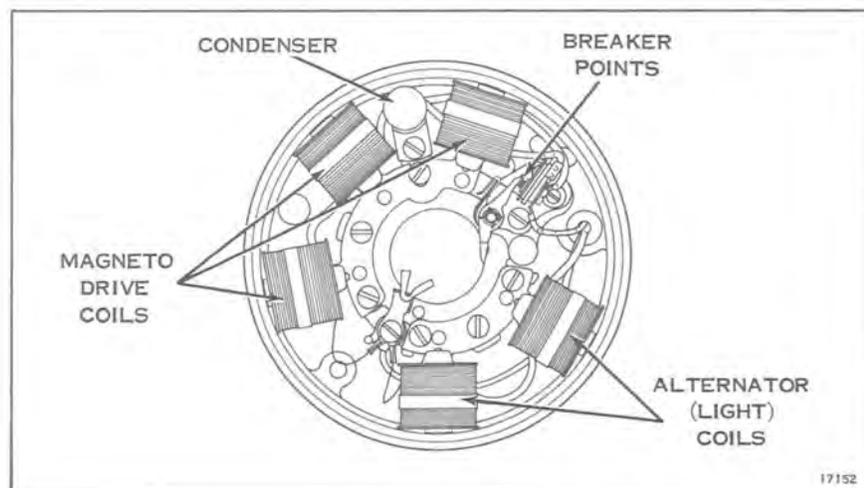

Figure 7-14
- t. The magneto drive coils, alternator coils, breaker points and condenser are now accessible for servicing. See Figure 7-14.